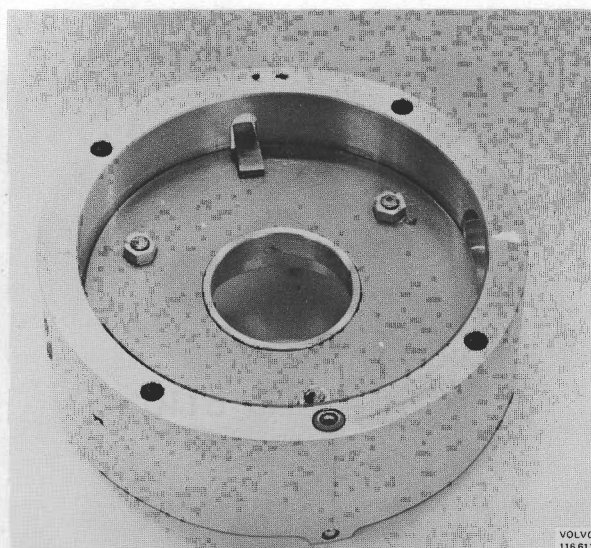

Fig. 48-17. Removing the nuts
4. Remove the nuts securing the thrust plate, Fig. 48-17, to the bellows.